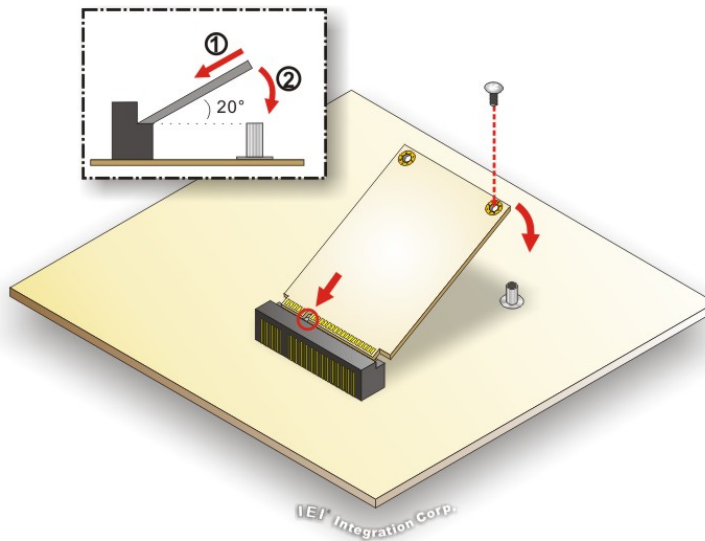

Figure 4-3: PCIe Mini Card Installation (Full-size)
- Step 3:** Push the other end of the PCIe Mini card down and secure the card with the previously removed retention screw **(Figure 4-3)**.